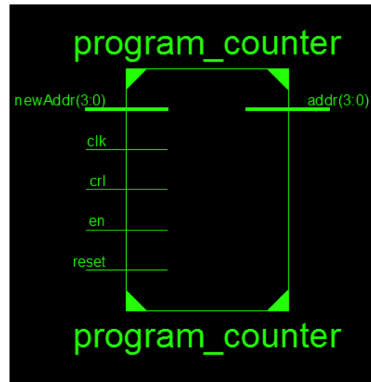

Figure 3: Program Counter Module
Program Counter (PC): 4 bits address of the next instruction to be fetched and executed. It either increment automatically or if jump operation it use the address specified in op3 of the instruction. Figure 3 shows the PC module